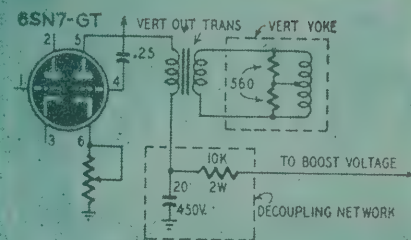

Fig. 7—Another height control circuit. More B-plus is applied in this way.
3. For additional height, reduce the value of any resistor in series with the B-plus side of the vertical output transformer primary. If necessary connect the primary to the boost voltage through a decoupling network of approximately 10,000 ohms, 2 watts, and 20 μf , 450 volts as in Fig. 7. As this will load down the boost voltage and reduce the high voltage somewhat, use the